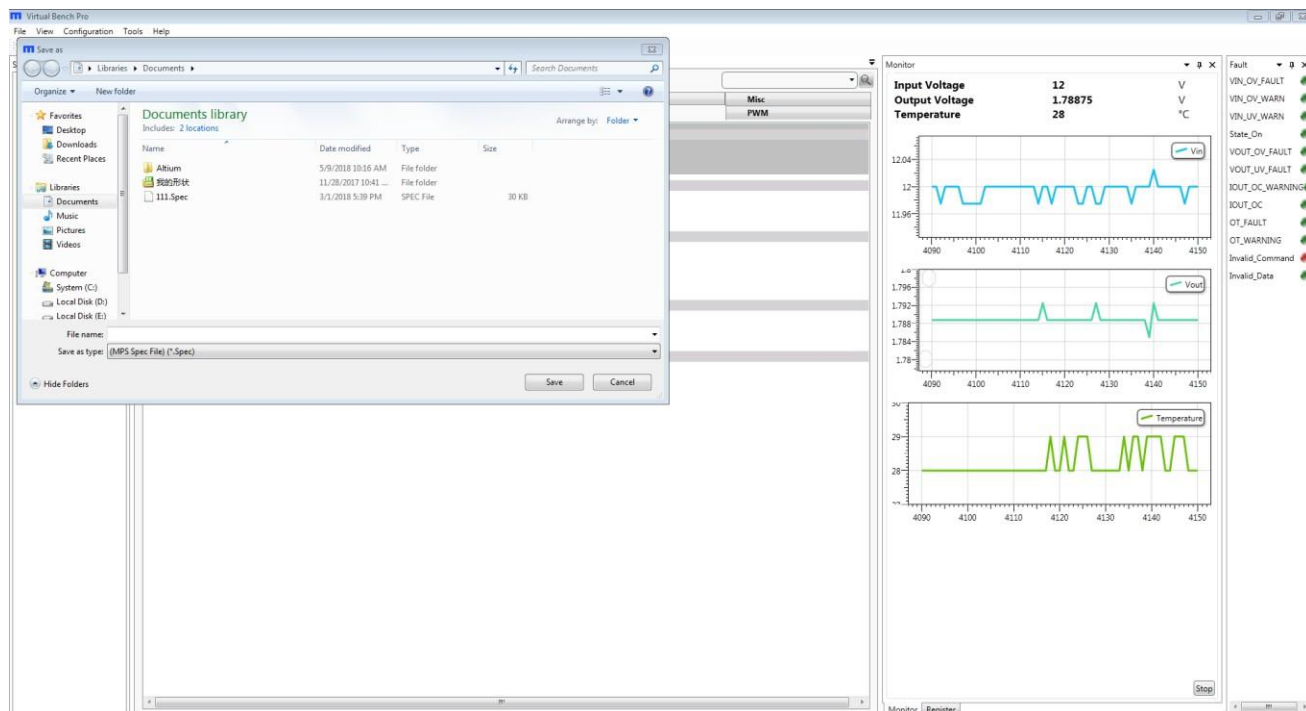

Figure 11: Select the Directory for Configuration File
6. Export the configuration by clicking "configuration." Select the desired directory for the exported file and click "OK." Your configurations will be saved in a text file (see Figure 11).